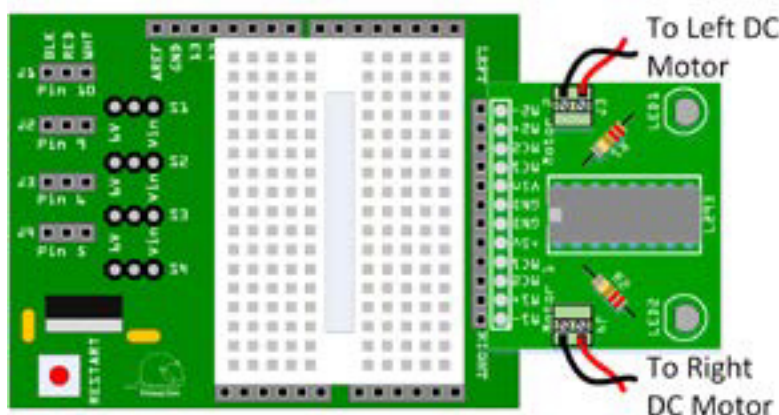

Figure 15-9. Inserting the red and black wires into female header
8. Insert the red and black wires from each of the DC motors into the female header holding the H-bridge circuit board as shown in Figure 15-9. Be sure to insert the red wires opposite the M1+ and M2+ pins; insert the black wires opposite the M1- and M2- pins.